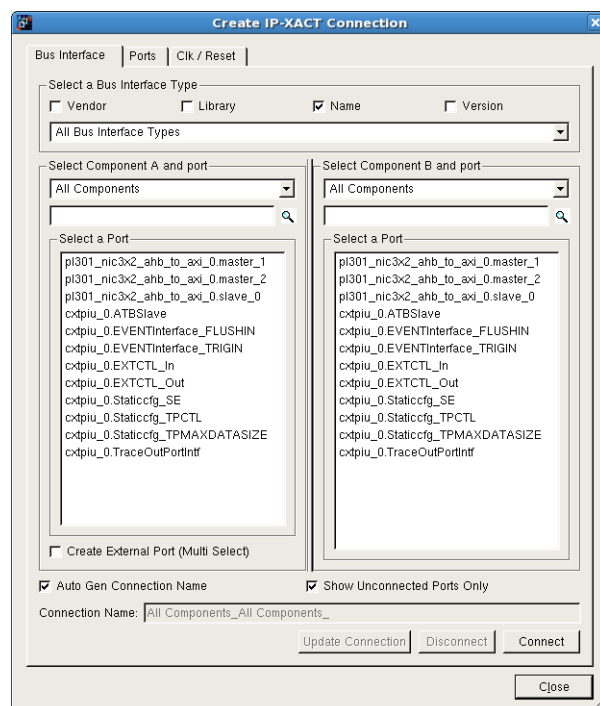

Figure 6-1 Create IP-XACT Connection
2. Right-click on an empty section of the Diagram Window and select **Add Connection...**. The Create IP-XACT Connection dialog box appears, see Figure 6-1 on page 6-5.